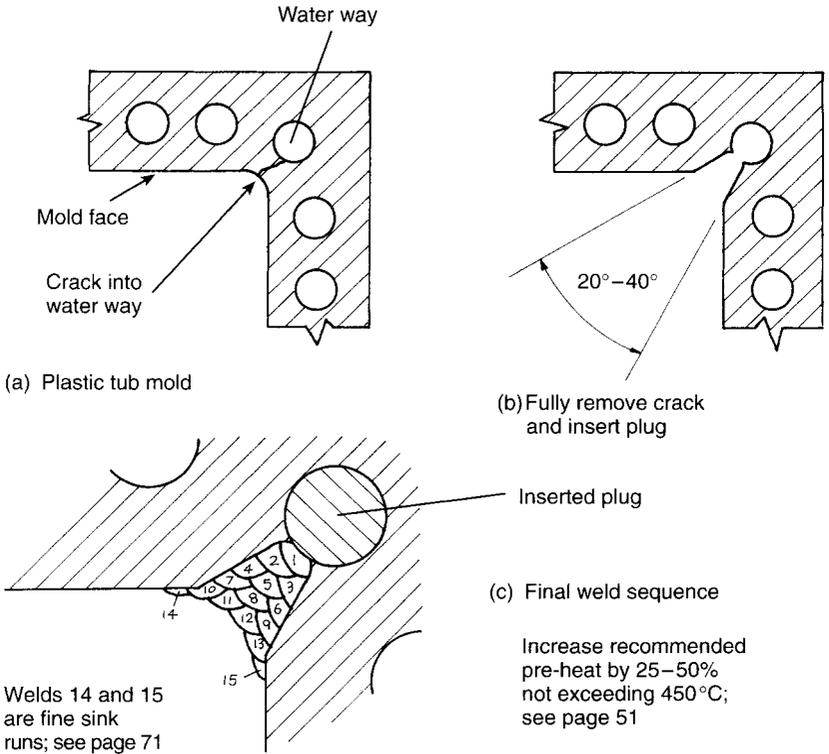

Fig. 6.15
**Problem 7** Cooling waterways on tools being too close to sensitive areas; see Fig. 6.15.
**Solution 7** Fully plug waterway and repair as shown in Fig. 6.15(c).